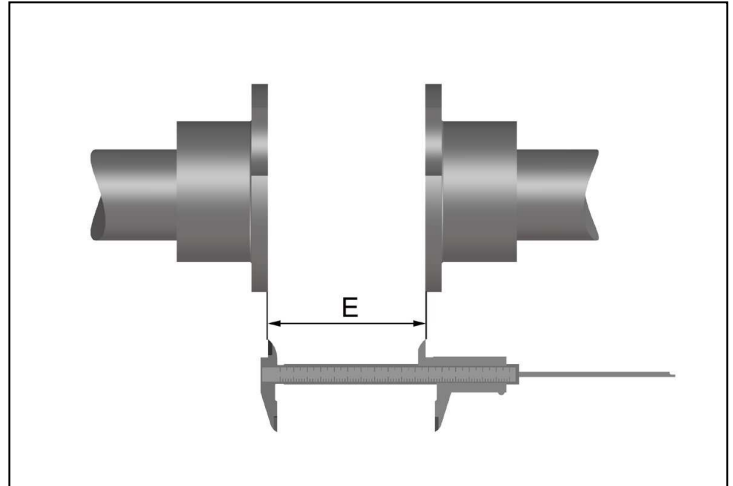

Fig. 5
- Check correct distance dimension 'E'. See Fig. 5 and chapter 7 'Coupling alignment'.